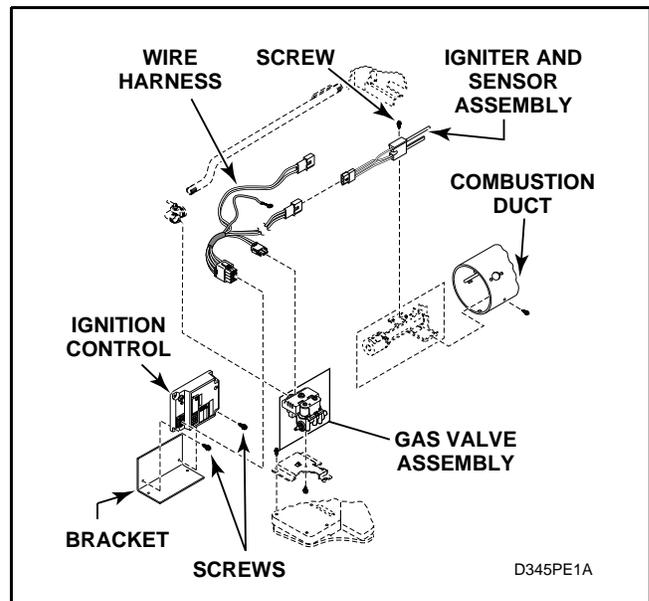

Figure 15
- (4.) Remove screws holding ignition control to bracket. See *Figure 15*.
- (5.) Carefully remove ignition control. See *Figure 15*.